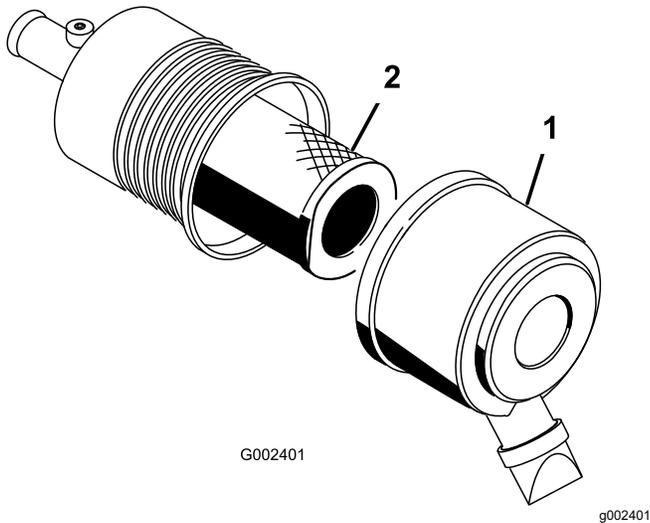

Figure 41
7. Install the cover orienting the rubber, outlet valve in a downward position, between approximately 5 o'clock to 7 o'clock when viewed from the end (Figure 41).